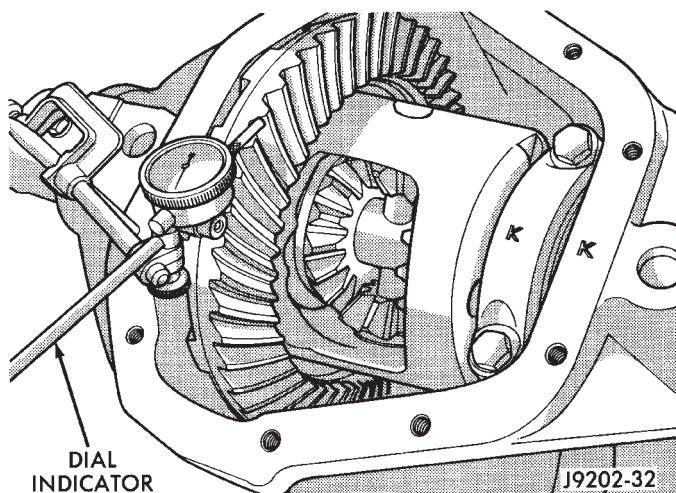
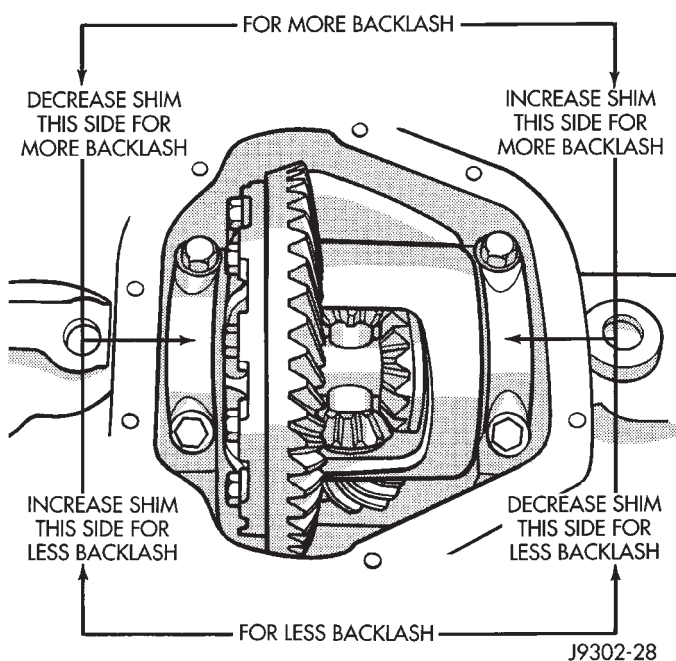

Fig. 79 Ring Gear Backlash Measurement
Fig. 80 Backlash Shim Adjustment
(23) Record dial indicator reading.
(24) Subtract 0.002 in. (0.05 mm) from the dial indicator reading to compensate for backlash between ring and pinion gears. This total is the thickness of shim required to achieve proper backlash.
(25) Subtract the backlash shim thickness from the total preload shim thickness. The remainder is the shim thickness required on the pinion side of the axle housing.
(26) Rotate dial indicator out of the way on guide stud.
(27) Remove differential case and dummy bearings from axle housing.
(28) Install new side bearing cones and cups on differential case.
(29) Install spreader W-129-B, utilizing some components of Adapter Set 6987, on axle housing and spread axle opening enough to receive differential case.
(30) Place side bearing shims in axle housing against axle tubes.
(31) Install differential case in axle housing.
(32) Rotate the differential case several times to seat the side bearings.
(33) Position the indicator plunger against a ring gear tooth (Fig. 79).
(34) Push and hold ring gear upward while not allowing the pinion gear to rotate.
(35) Zero dial indicator face to pointer.
(36) Push and hold ring gear downward while not allowing the pinion gear to rotate. Dial indicator reading should be between 0.12 mm (0.005 in.) and 0.20 mm (0.008 in.). If backlash is not within specifications transfer the necessary amount of shim thickness from one side of the differential housing to the other (Fig. 80).
(37) Verify differential case and ring gear runout by measuring ring to pinion gear backlash at several locations around the ring gear. Readings should not vary more than 0.05 mm (0.002 in.). If readings vary more than specified, the ring gear or the differential case is defective.